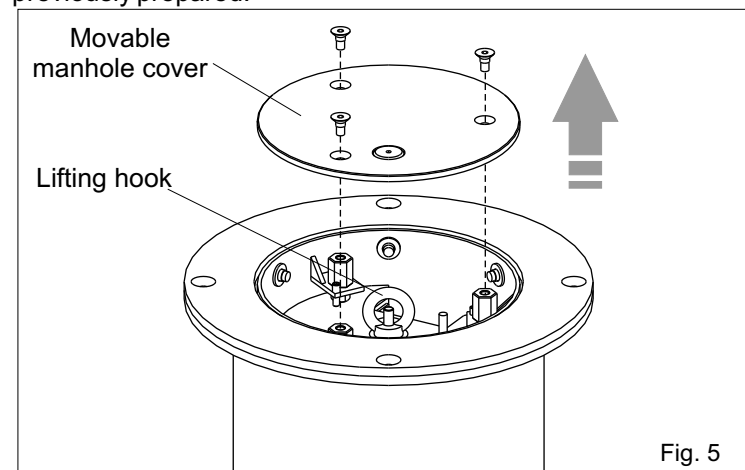

Fig. 5
2.1. Remove the movable access cover unscrewing the three screws as in Fig. 5.